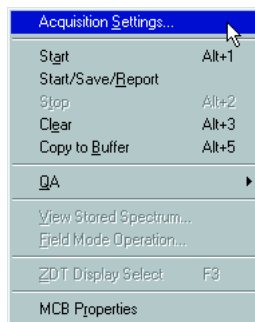
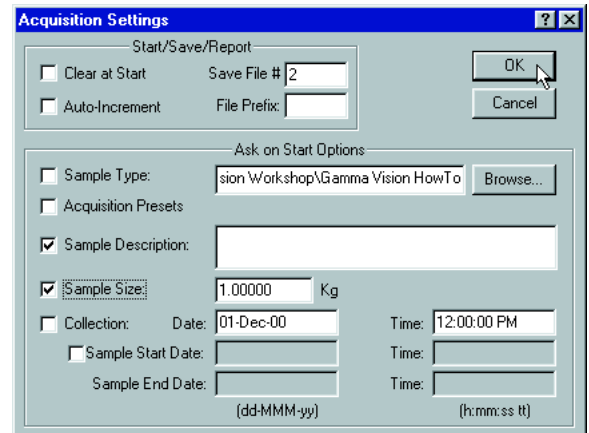

Fig. 44
Fig. 45
3.2 To setup the user dialog for input of these unique sample parameters, choose **Acquisition Settings** (Fig. 44). If the Sample Definition File created in Step 2 is not selected in the input box, browse to the file location and choose open. Place a checkmark in the boxes for **Sample Description** and **Sample Size** and click **OK** (Fig. 45).